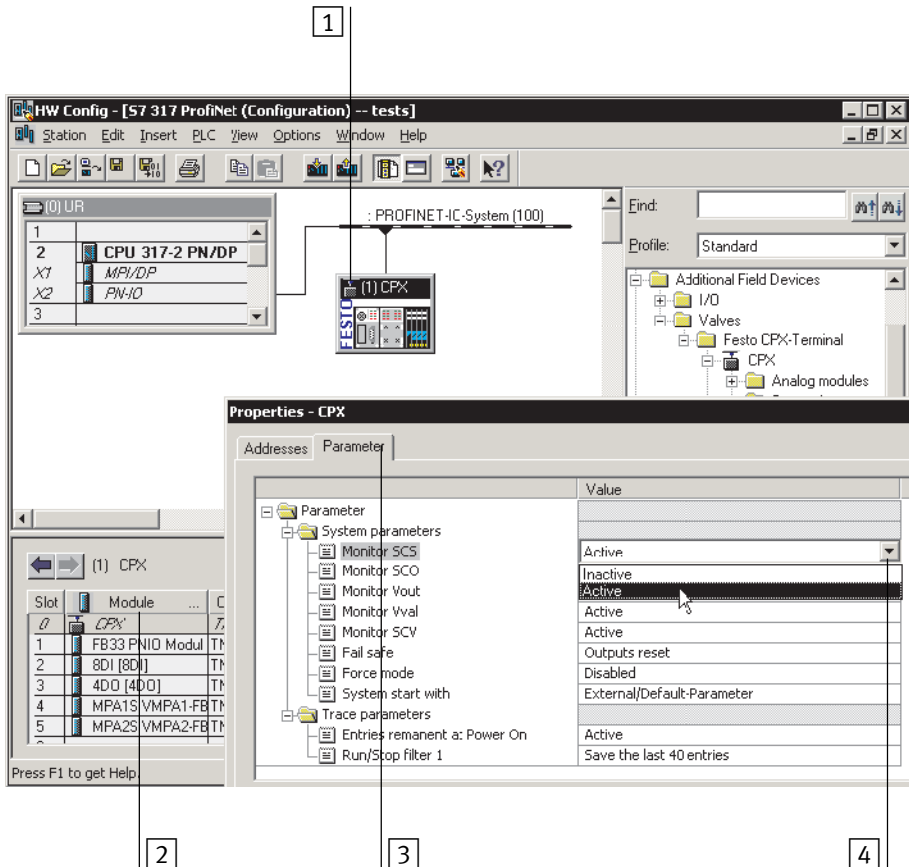

Fig. 2/14: Setting system parameters with Siemens STEP 7
2. Mark the symbol of the CPX terminal on the PROFINET-IO system (see 1 Fig. 2/14). The configuration table now shows the configuration of the CPX terminal.